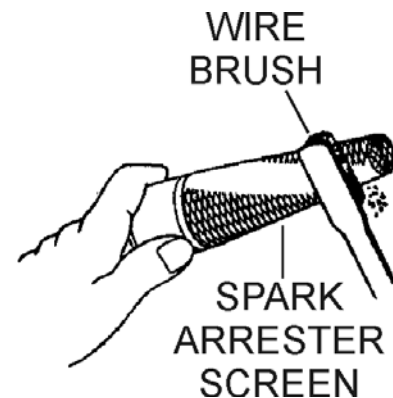

Figure 43. Cleaning The Spark Arrester
2. Carefully remove carbon deposits from the spark arrester screen with a brush (Figure 43).